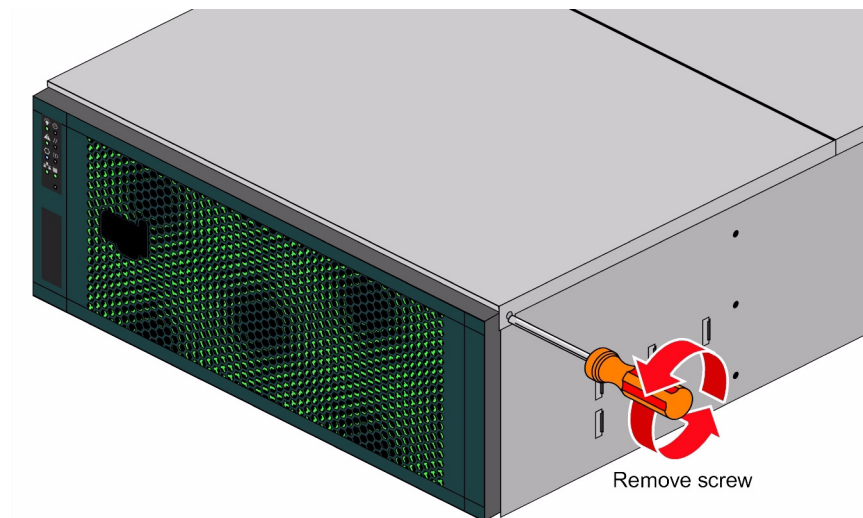

Figure 1-22 Top Cover Security Screw Removal
1. Remove the single security screw from the cover (Figure 1-22).